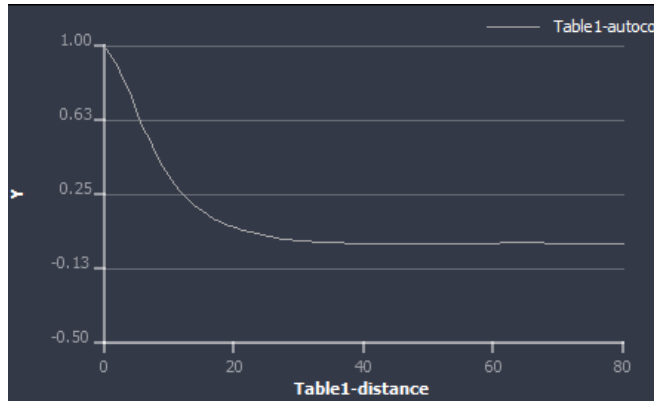

Figure 21.4: Autocorrelation versus Distance Plot
- Plot the autocorrelation versus distance. The autocorrelation decreases progressively until an asymptote is reached. The distance from which this asymptote reaches about 30 voxels is the range of the microstructure. A rule of thumb for an optimal subset size is to take about 3-4 times this value. We will use 110 voxels in this study (see Figure 21.4).